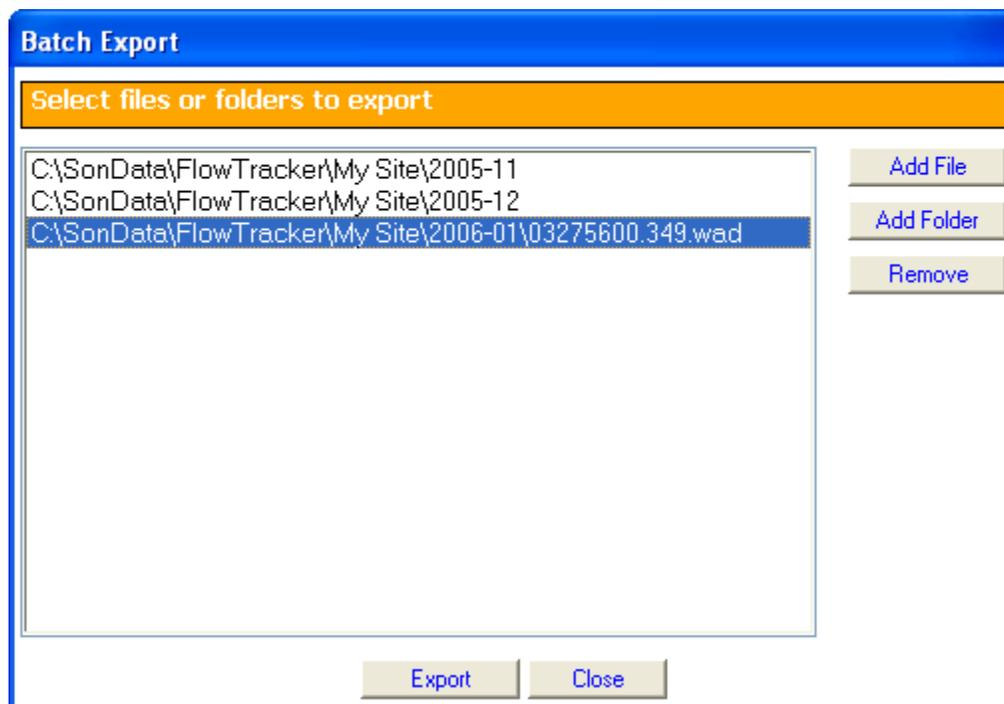

Figure 10 – Batch Export Window
- Click **Open many FlowTracker files/folders** to display and export data from multiple FlowTracker files or folders. This operation is referred to as Batch Export. When this item is selected, the **Batch Export** window is displayed (Figure 10). Use the **Add File** and **Add Folder** buttons to add files/folders for processing. When a folder is added, all FlowTracker files in that folder are processed. Items may be removed from the list by selecting them and clicking **Remove**. When **Export** is clicked, all the listed files/folders are processed using the options selected from the main menu. If **Show Discharge Summary Report** is selected, all files will be added as tabs to the main window.